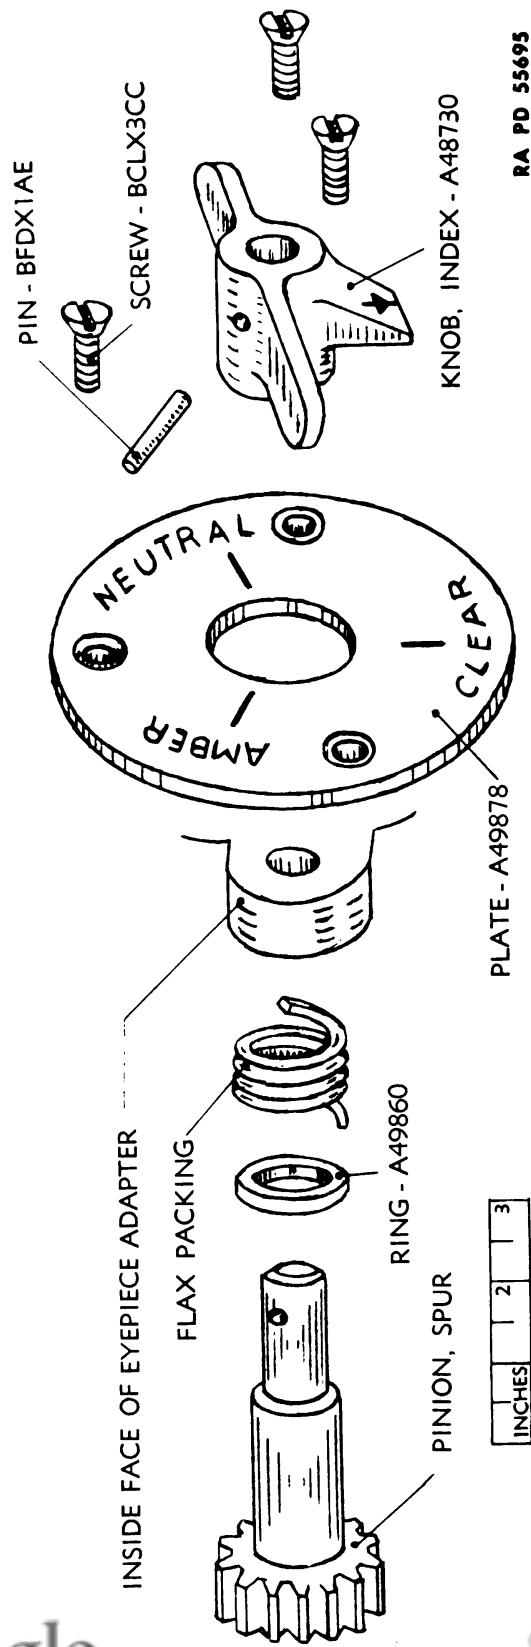

Figure 42—Spur Pinion and Filter Selector Knob Assembly—Exploded View
(1) Drive out straight pin BFDX1AE from the filter selector knob A48730 (fig. 42), and remove the knob.
(2) Remove the spur pinion A48724, being careful not to lose the packing ring A49860. Remove the flax packing.